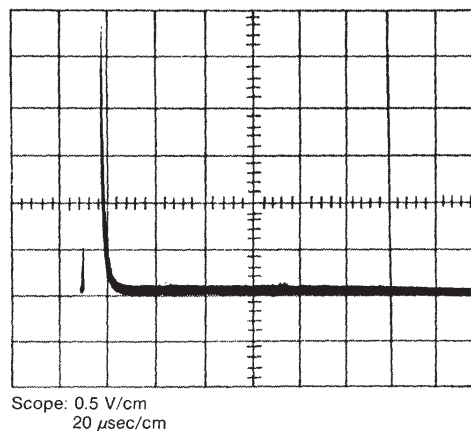

Figure 18 Pole/Zero Adjust
2. Observe the AMP OUTPUT on the scope and adjust the pole/zero control so that the tail of the unipolar pulse returns to the baseline as fast as possible with NO under or overshoot, as in Figure 18.
5. Monitor the 2015A AMP OUTPUT on the scope and adjust the pole/zero for no under or overshoots, see Figure 18. Adjust the 2015A FINE GAIN for an OUTPUT pulse amplitude of +9.9 to +10.1 volts.